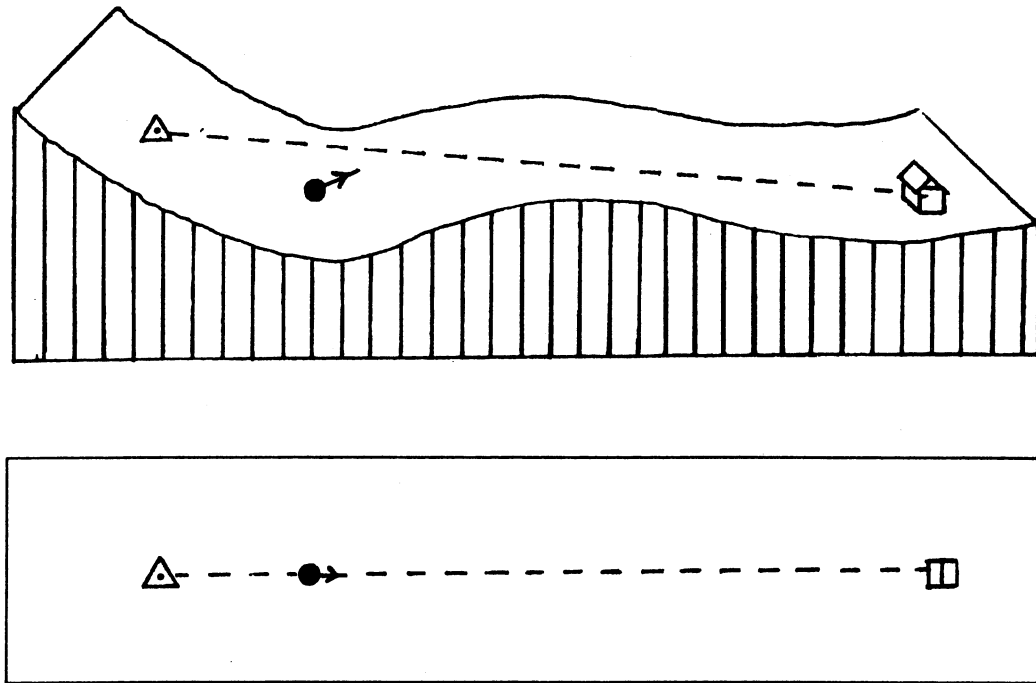

Fig 4-10. Compass method.
- (1) The first way to use a compass azimuth to establish initial direction of fire is when the observer shoots an azimuth to the target. He then passes on the direction of the target to the team leader who follows the steps listed below.
- (2) The second way to use a compass azimuth to establish initial direction of fire is when the observer computes the initial azimuth by one of the following methods.
- (b) The observer places himself on high ground to your rear and moves laterally until he has aligned himself, you, and the target. He then shoots an azimuth to the target and relays that information to you. This method is illustrated in figure 4-10.